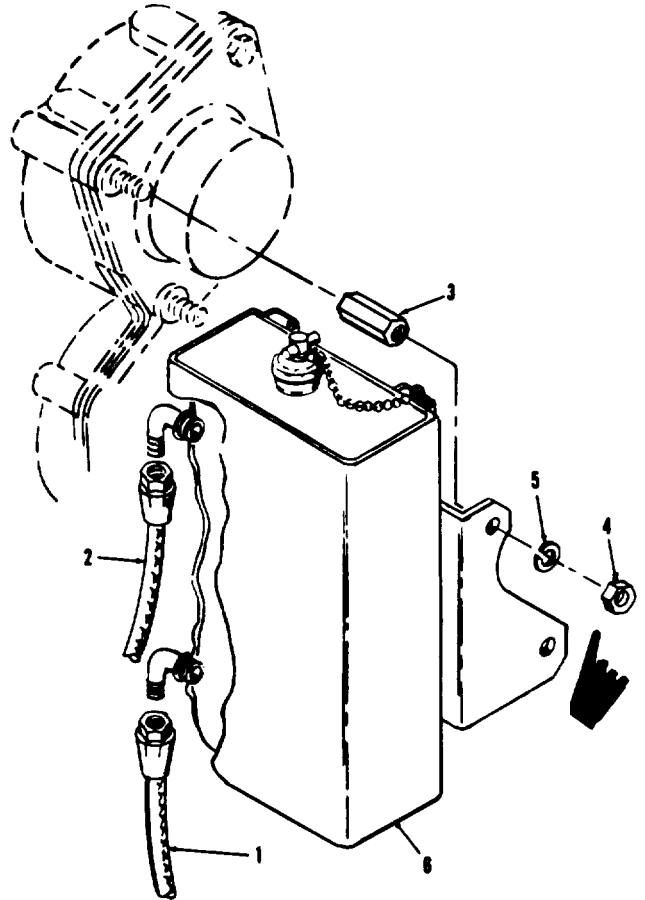

Figure 8-21. Hydraulic tank, removal and installation
Refer to figure 8-21 and remove hydraulic tank in the order of index numbers assigned. Pay particular attention to the following:
Legend to figure 8-21:
a. Refer to figure 8-21 and install hydraulic tank in the reverse order of index numbers assigned.